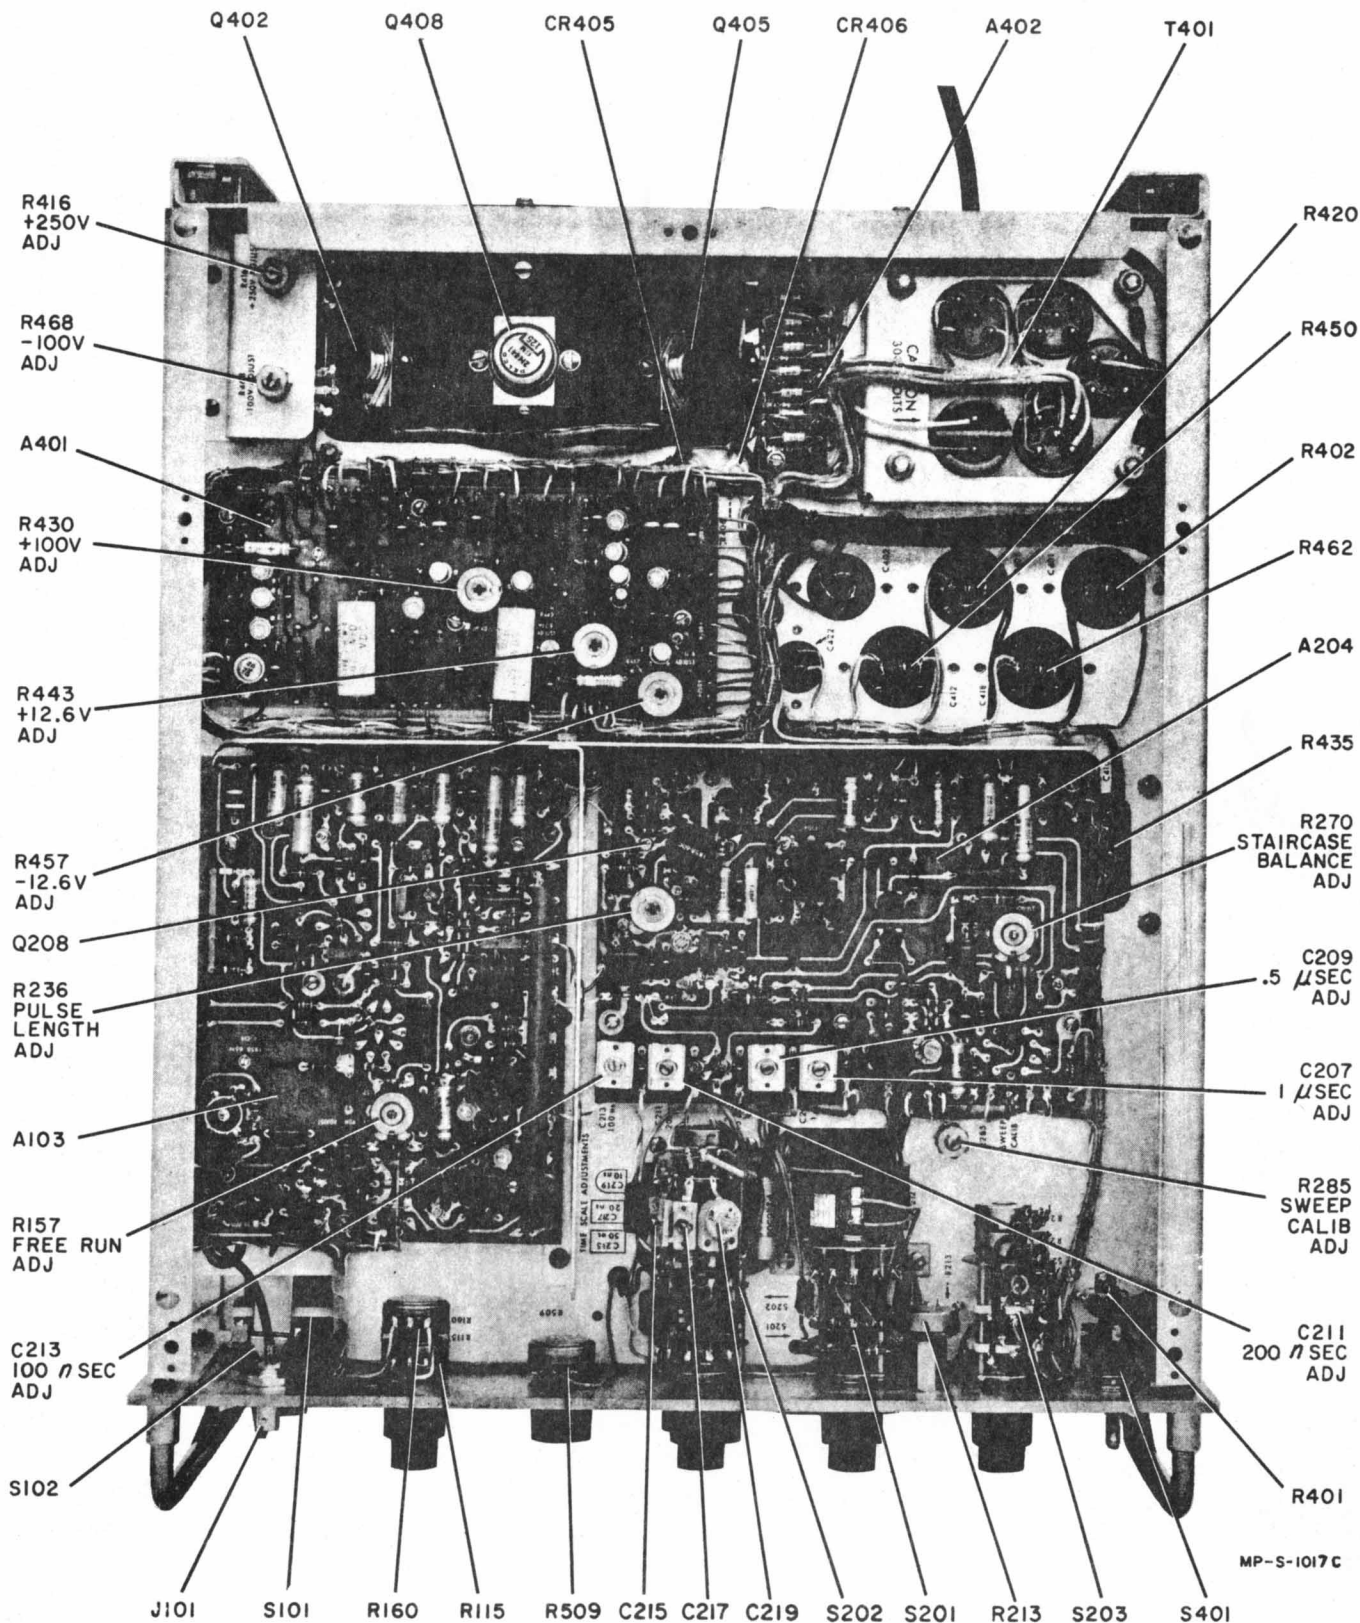

Figure 5-9. Bottom View, Model 185B
d. Adjust R213, Minimum Delay (figure 5-9) so pulse rise occurs 2 cm from start of trace.